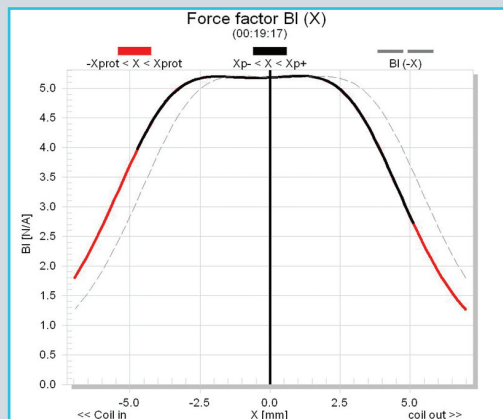
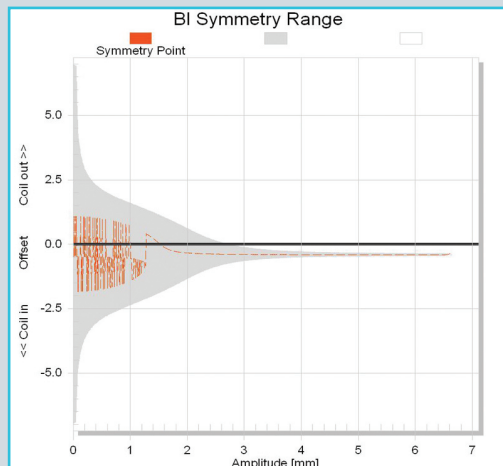
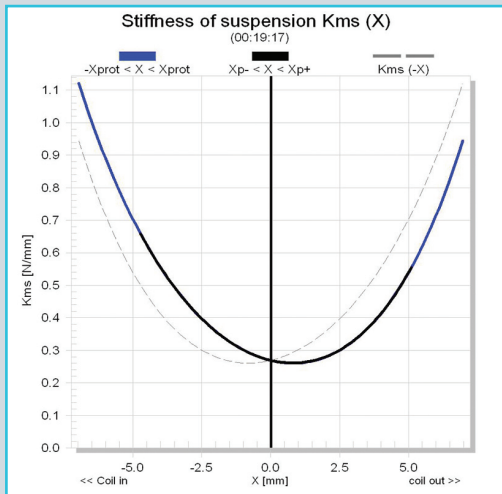

FIGURE 6: Klippel Analyzer BI (X) curve for the Audience A3.
FIGURE 7: Klippel Analyzer BI symmetry range curve for the Audience A3.
FIGURE 8: Klippel Analyzer mechanical stiffness of suspension $K_{ms}(X)$ curve for the Audience A3.
The BI(X) curve for the A3 (**Fig. 6**) is very broad and symmetrical, typical of a high X_{max} driver, with a small rearward (coil-in) offset. Looking at the BI symmetry plot (**Fig. 7**), this curve shows a coil inward offset of about 0.35mm from about 2mm outward and stays constant throughout the remaining operating range of the driver. **Figures 8** and **9** depict the Kms(X) and Kms symmetry range curves for the A3 woofer. The Kms(X) curve is moderately symmetrical with a small forward offset of about 0.81mm at the rest position that decreases throughout the remaining operating range—not a problem.